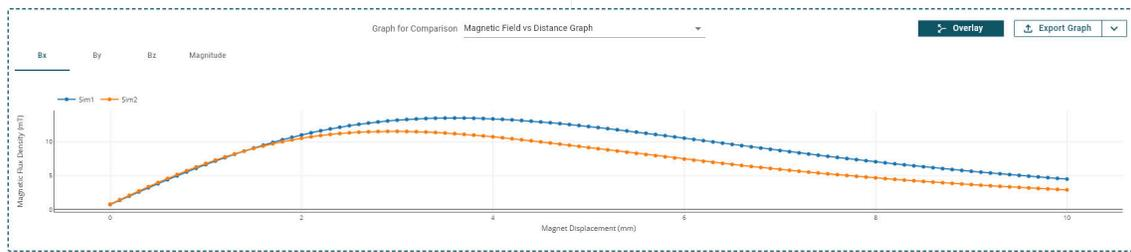

Figure 7-2. Overlaid Comparison Outputs
6. **Overlay:** Selecting this option combines the outputs into a single plot as shown in Figure 7-2. Some differences are not easily observed when comparing the two simulation results side-by-side. Conveniently, the individual components are plotted independently in this mode.